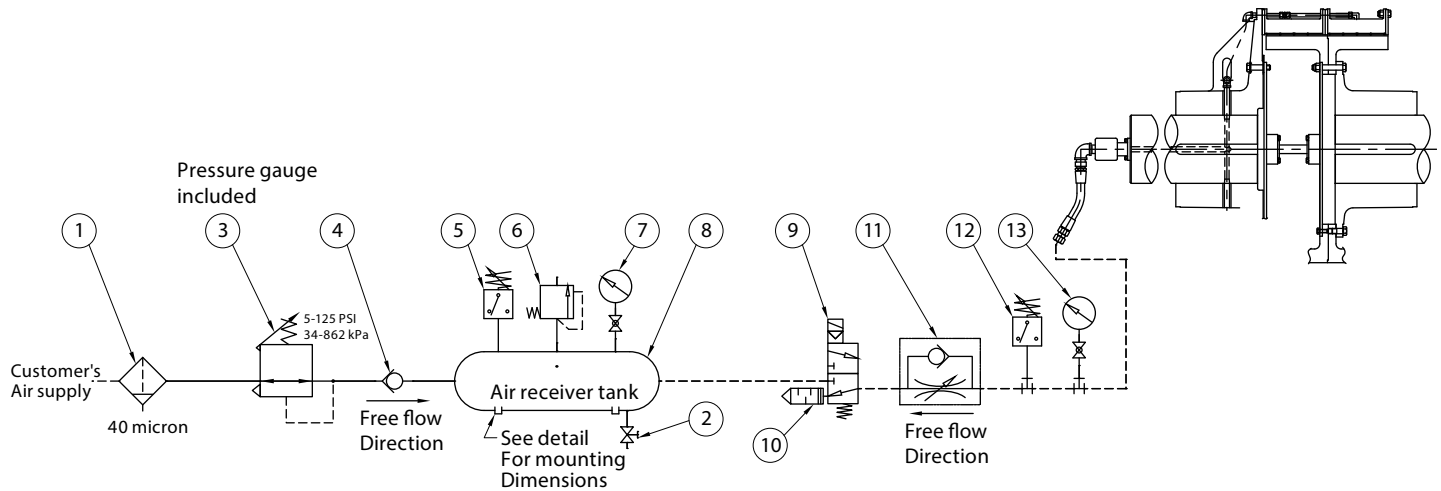

Figure 8
2.7.1 A typical air control system is shown on Figure 8. Since operating characteristics vary from one grinding mill to another, following are some general guidelines for installing the air controls.